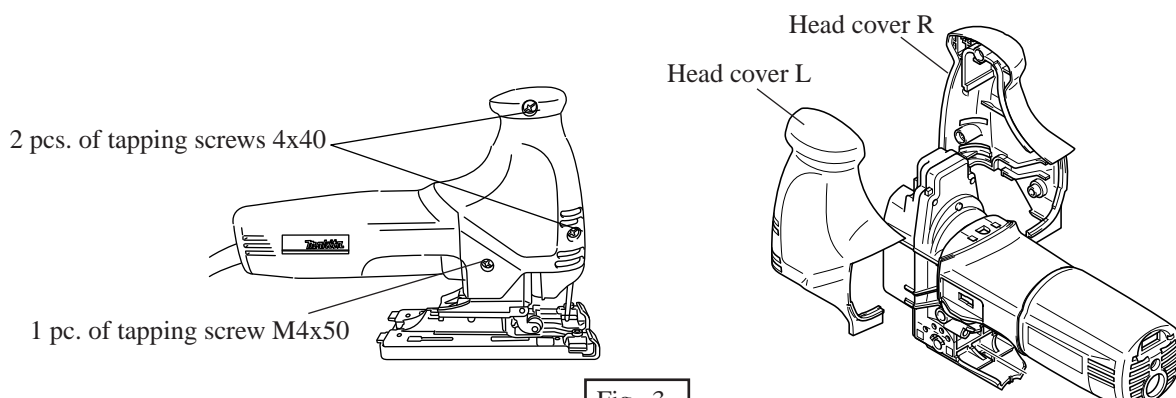

Fig. 3
1. Separate head cover R from head cover L by unscrewing the following screws. See Fig. 3.